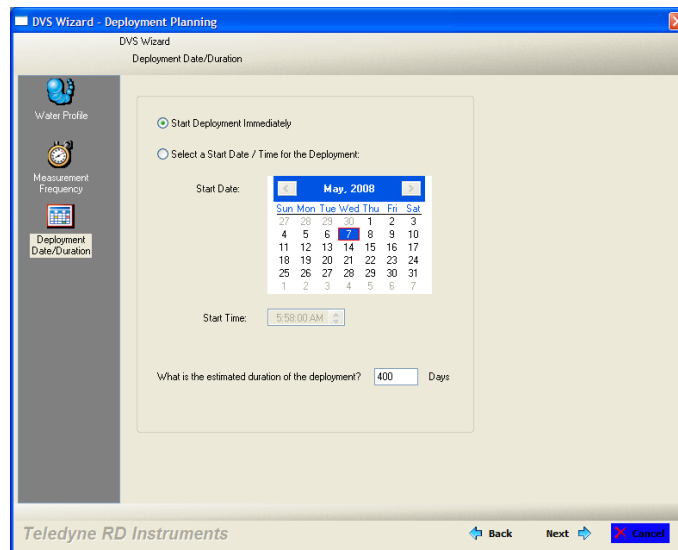

Figure 9. DVS Wizard – Deployment Date/Duration
- j. Enter the expected duration of the DVS deployment from the time of the first water profiling ping (either immediately or first ping date/time, see Figure 9). This duration *does not* produce a command to instruct the DVS to stop data collection; it is for estimating consequences only. This duration is used to estimate the following *consequences*: Battery Power usage, and Storage required. Click **Next** to continue.